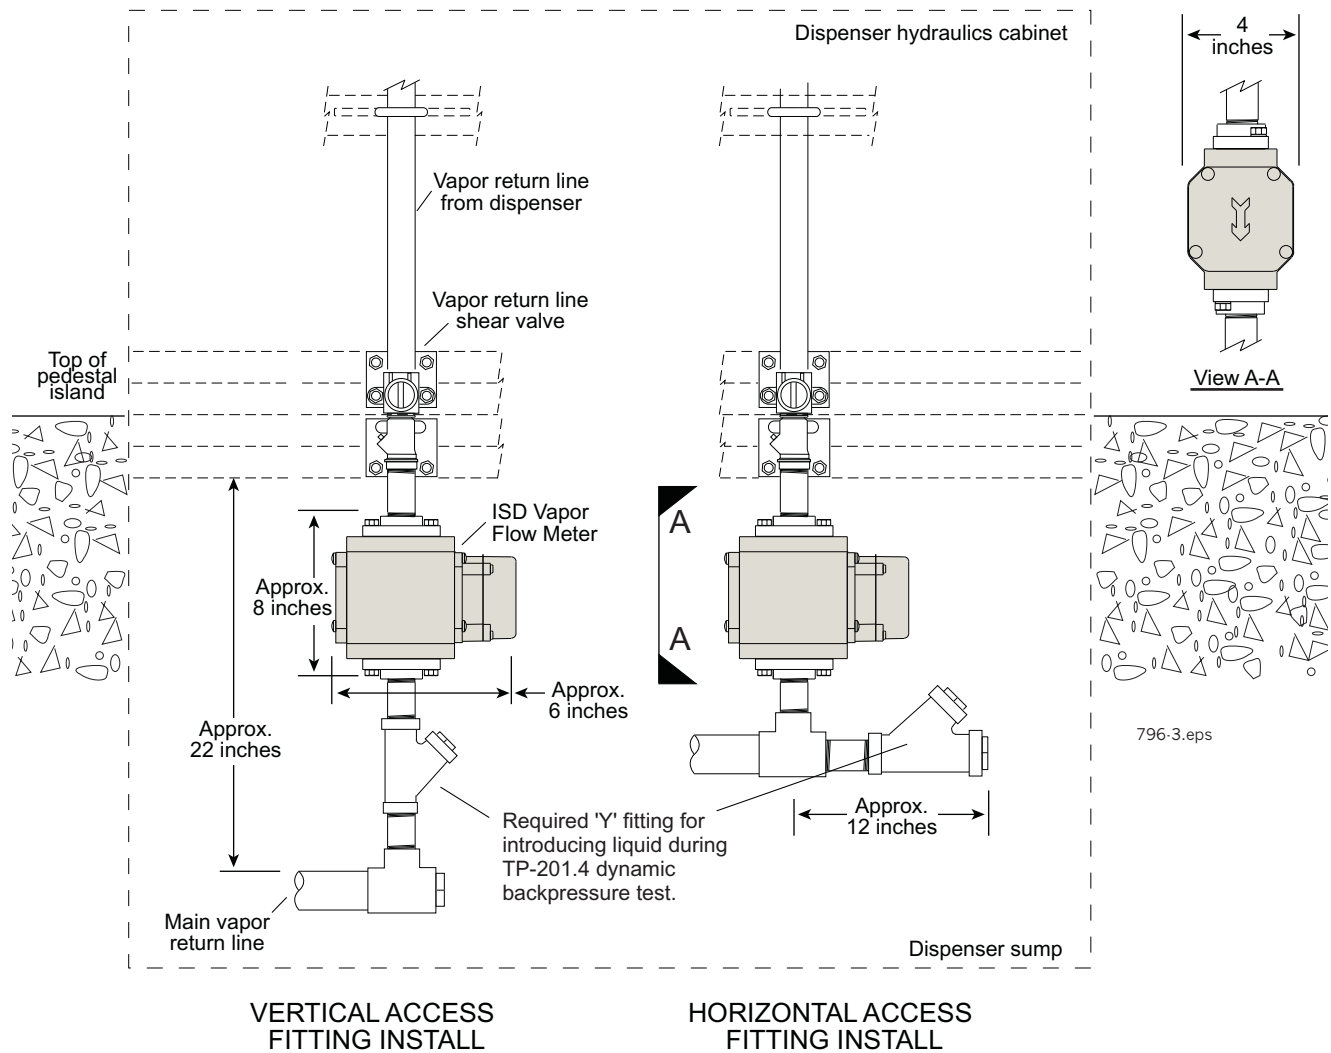

Figure 3. Example flow meter installations with approximate clearances
4. Remove any unneeded field installed plumbing between the vapor shear valve and the vapor return line fitting. Figure 3 shows two example installations of the Vapor Flow Meter with the required lateral or wye fitting for running the TP-201.4 back pressure test. Approximately 3 inches of clearance is required on both sides of the piping to accommodate the width of the meter body.